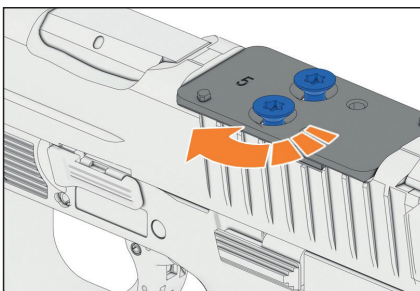

Figure 19 – Tighten screws
5. Tighten screws until the torque is reached (Fig. 19).